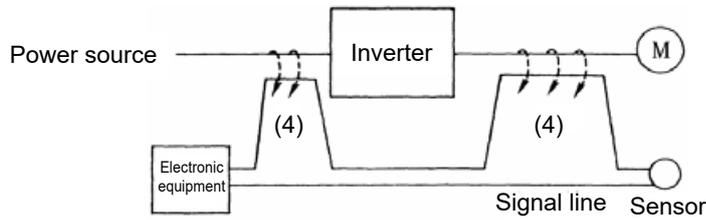
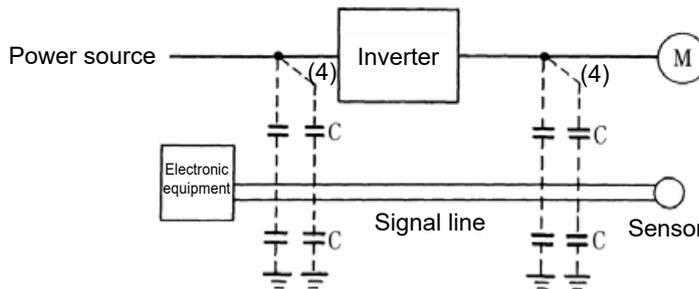

Fig. A.2-4 Electromagnetic induction noise
Fig. A.2-5 Electrostatic induction noise
(2) Induction noise
When wires or signal lines of peripheral devices are brought close to the wires on the input and output sides of the inverter through which noise current is flowing, noise will be induced into those wires and signal lines of the devices by electromagnetic induction (Fig. A.2-4) or electrostatic induction (Fig. A.2-5). This is called “induction noise” (4).